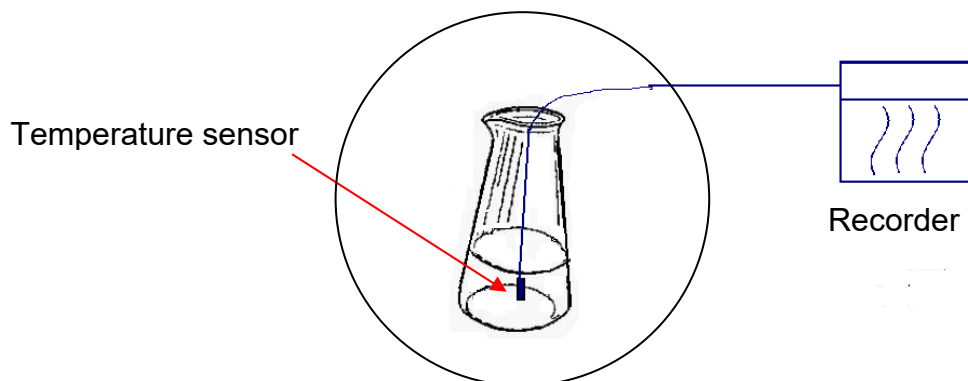

Figure 64
- M. An additional temperature sensor and recorder are required for liquid sterilization program as shown in Figure 64.